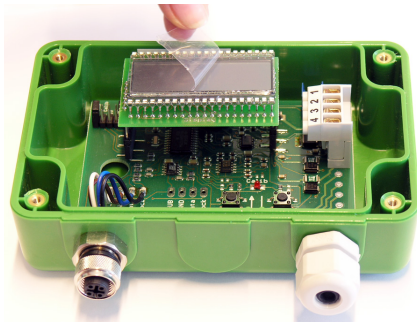

Fig. 8 Remove protection foil from display.
5. Remove the protection foil from display (Fig. 8).